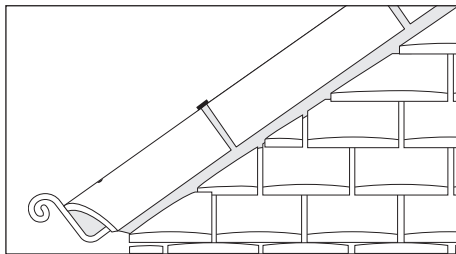

Fig. 10 – Bedded and mechanically fixed third round third hip ridge tiles used as hip capping with hip iron
- 2 Fix a galvanised hip iron at foot of hip as support (Fig. 10).